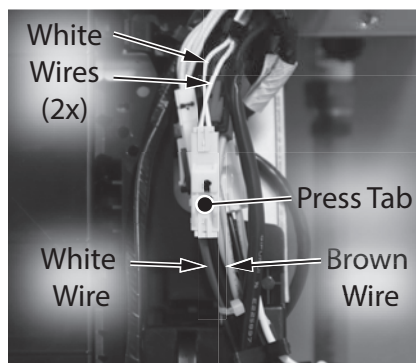

Figure 39 - Disconnect thermostat wiring
- 6 With control board panel lowered, locate the freeze protection thermostat wire connection (white) as shown in Figure 39. Press tab on connector and disconnect wires. Wires leading to control board are white and brown. Wires leading to thermostat are both white.
- 10 Connect freeze protection thermostat to wiring cluster located at the control board panel as shown in Figure 39. Confirm wiring is snug inside plastic organizer.